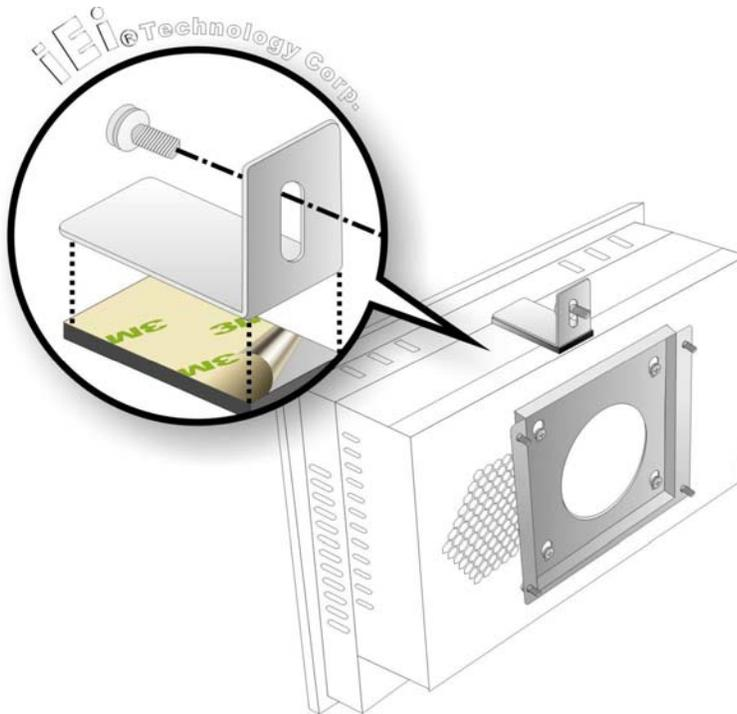

Figure 4-22: Secure the Chassis
Step 3: Secure the panel PC with the wall-mounting kit. To do this, stick the protective cushion to the wall-mounting kit first. Then, put the wall-mounting kit on the top panel of the panel PC. Carefully mark the location of the wall-mounting kit screw holes on the wall. Drill a pilot hole at the marked location on the wall. Secure the wall-mounting kit to the wall by inserting a retention screw into the pilot hole on the wall (**Figure 4-22**). This step is to avoid the panel PC being pushed apart from the wall-mounting bracket accidentally.